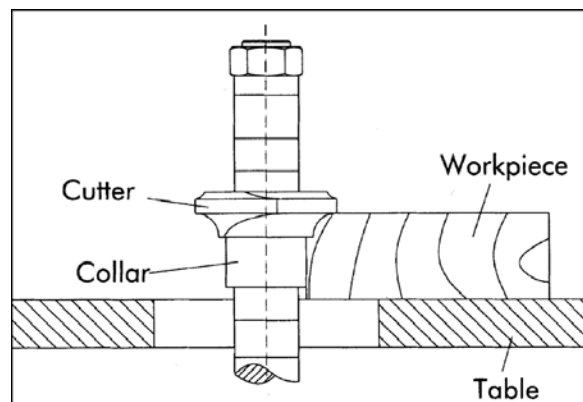

Figure 31
1. When the collar is used below the cutter, as shown in Figure 31, the progress of the cut can be seen throughout the operation. However, any accidental lifting of the work will gouge the wood and ruin the workpiece.